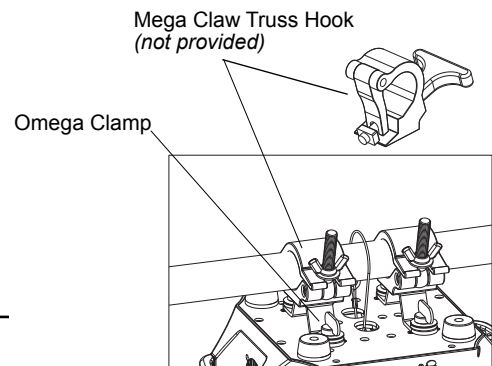

Figure 4: Truss Hook Installation
- Step 1. Install truss hooks and omega clamps as shown in Figure 4.